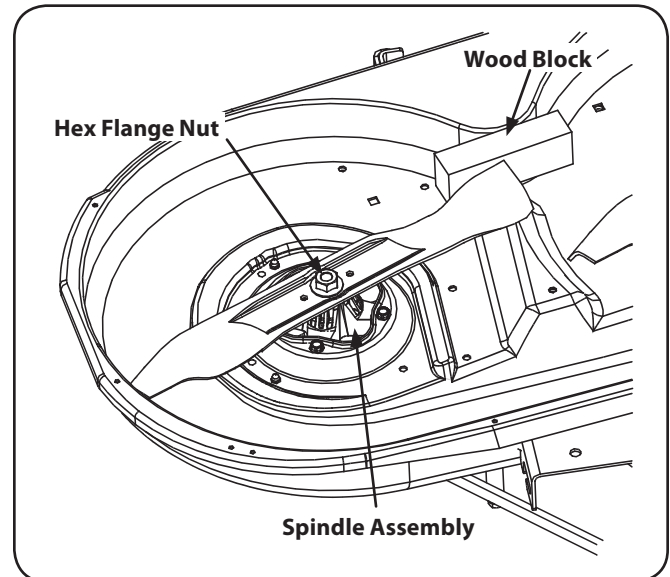

Figure 7-9
2. Use a  $\frac{15}{16}$ " wrench to hold the hex nut on top of the spindle assembly when loosening the hex nut securing the blade. A block of wood may be placed between the deck housing and the cutting edge of the blade to help in breaking loose the hex nut securing the blade. See Figure 7-9.